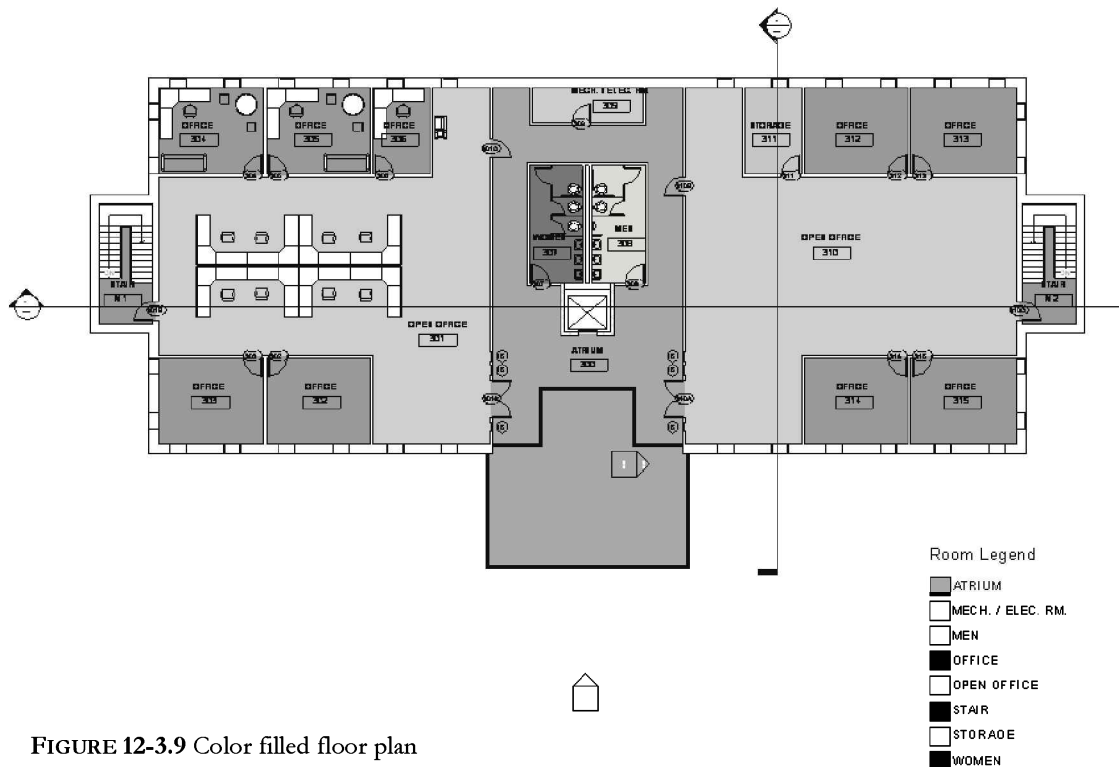

FIGURE 12-3.9 Color filled floor plan
You now have a color-coded plan where the colors are assigned by room name; e.g., all the rooms named “Office” have the same color (Figure 12-3.9).
22. Select the *Room Legend* shown in **Figure 12-3.9**.